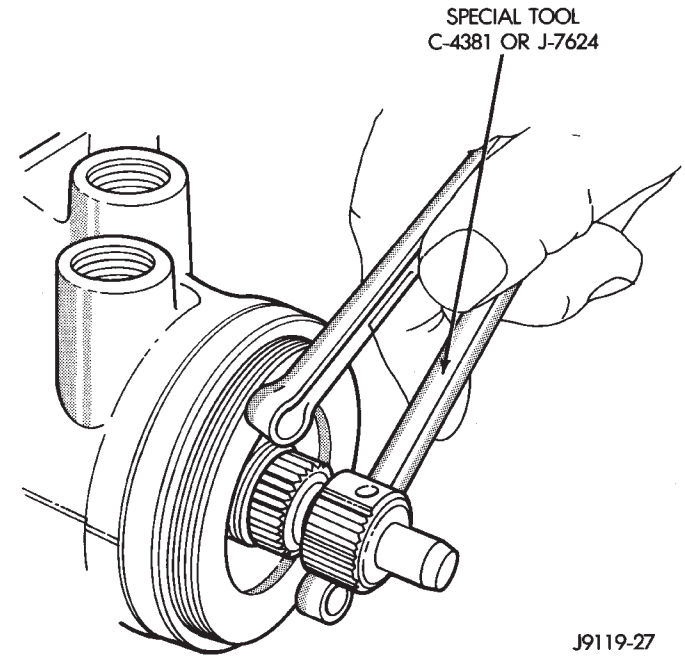

Fig. 19 Remove/Install Adjustment Plug
- (1) Remove adjuster plug lock nut from housing.
- (2) Remove adjuster plug from housing with Spanner Wrench C-4381 (Fig. 19).